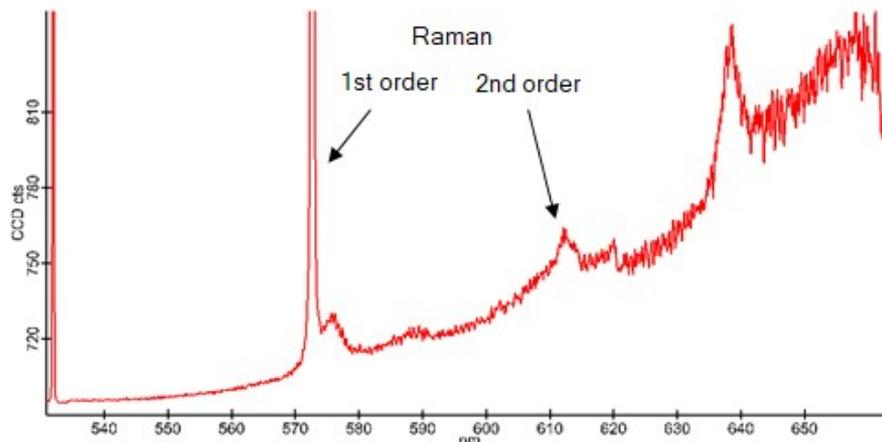

Figure 1: Fluorescence spectrum of diamond reference sample recorded with Time-Bandwidth Lynx laser.
3. Focus the laser on the reference sample and check if a reasonable fluorescence spectrum can be detected. In Figure 1, the fluorescence spectrum of the diamond reference sample recorded with a Time-Bandwidth Lynx laser is shown. Using a PicoQuant LDH the Raman lines would not be visible.